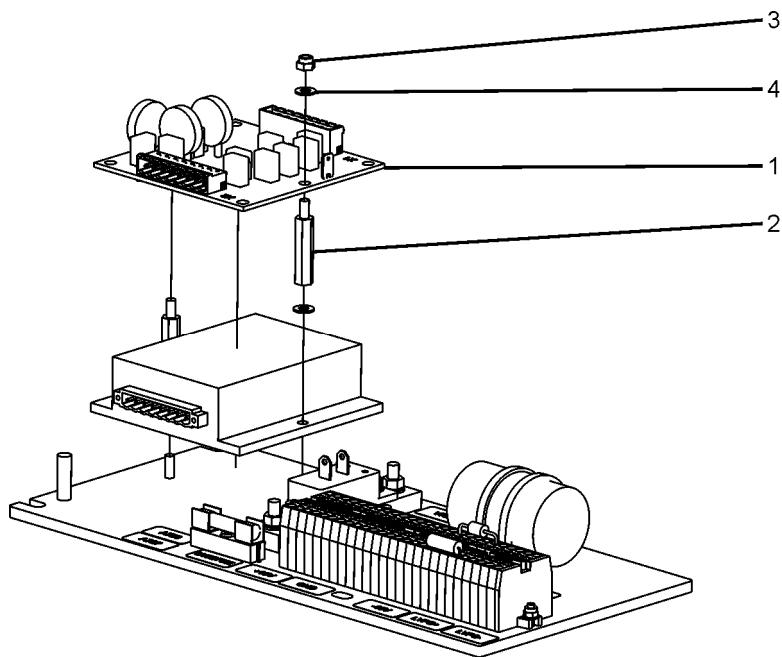

Figure 5-53: A727 Anchor Points
6. Detach A727 (see Figure 5-53). A727 (1) is mounted atop two standoffs (2) and is held in place with M4 locking nut (3) and M4 washer (4) sets. Remove the fasteners to detach the A727.
2. Insert A727 (see Figure 5-53). Place the board with the plug labeled X2 on the top facing outward.
3. Attach A727 (see Figure 5-53). A727 (1) is mounted atop two standoffs (2) and is held in place with M4 locking nut (3) and M4 washer (4) sets. Affix the fasteners and tighten to 22 lb-in (2.5 Nm).